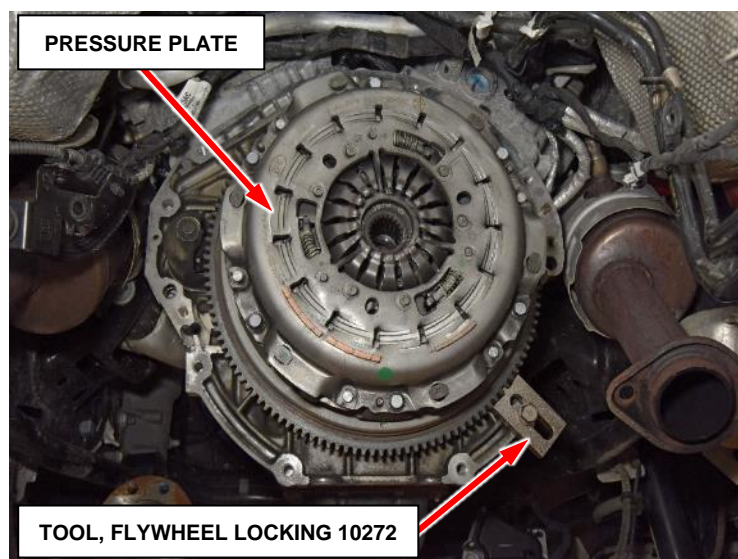

Figure 14 – Locking Tool Installed
44. Install the **Tool, Flywheel Locking 10272** onto back of the engine block (Figure 14).
45. Loosen clutch assembly bolts evenly, a few threads at a time and in a diagonal pattern to prevent warping the clutch assembly (Figure 14).